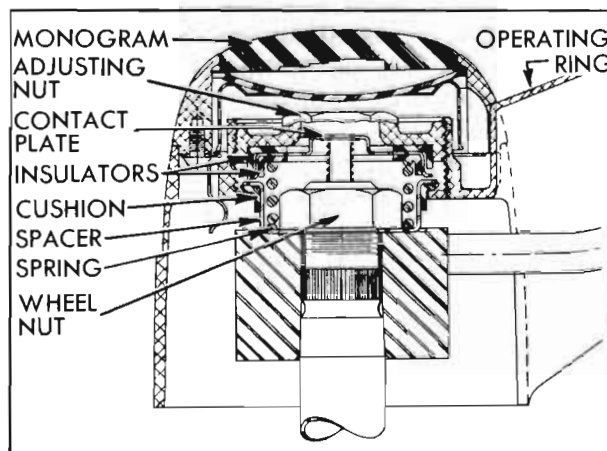

Figure 10-62—Horn Operating Ring Installation
over the wheel hub and spokes. To remove the operating ring, (1) pry out the monogram which is held by the prongs of a retaining spring, (2) unscrew and remove the adjusting nut, (3) remove the contact plate and spring, with insulators, (4) remove steering wheel nut, (5) remove operating ring with cushion and contact spacer. See figure 10-62.